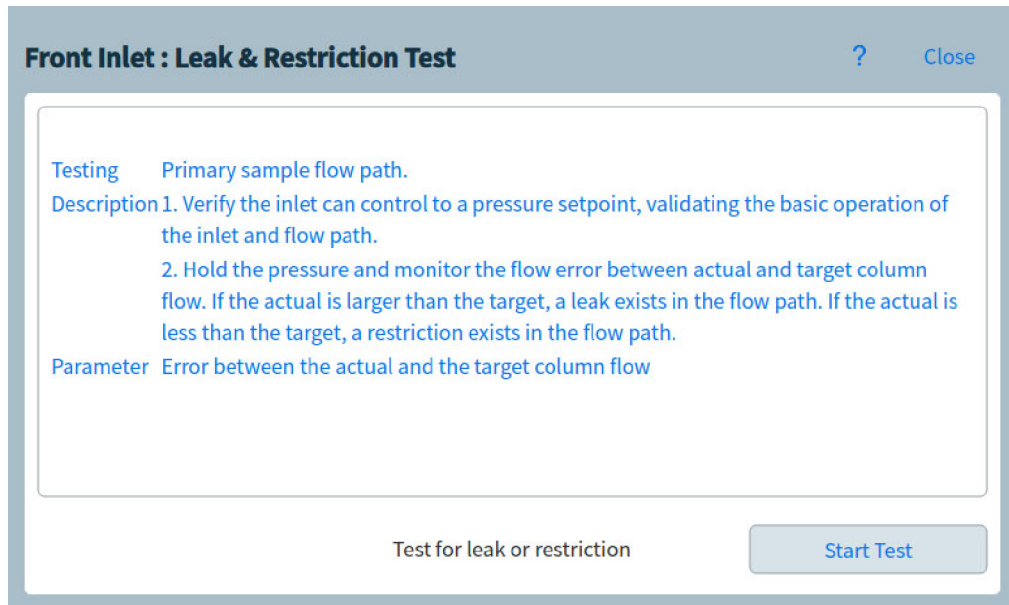

Figure 39. Leak & Restriction Test page
2. Select the desired test. The corresponding test page appears. The test page includes a test description and an indication of the parameter being tested. See Figure 39.